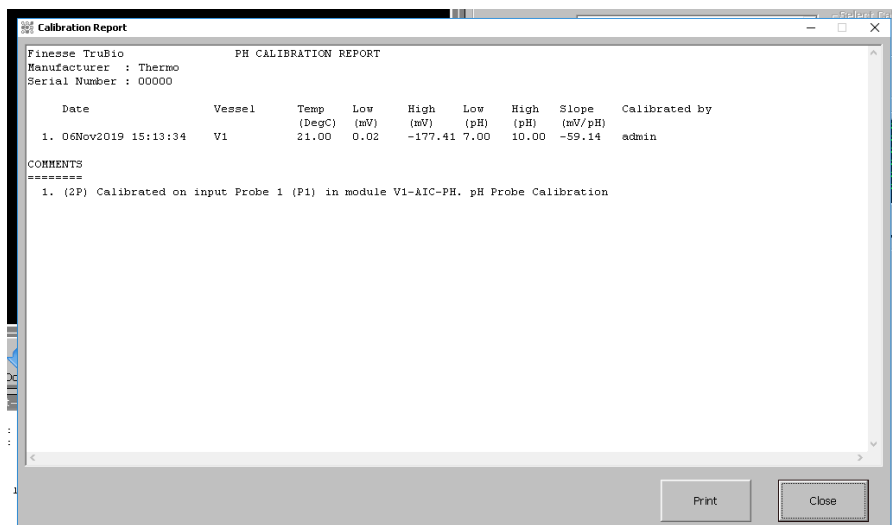

Figure 3.21. Calibration saved confirmation window.
- The **Calibration Report** window will display the detailed calibration history for the probe (Figure 3.21). Once written into the file, records cannot be modified or deleted.